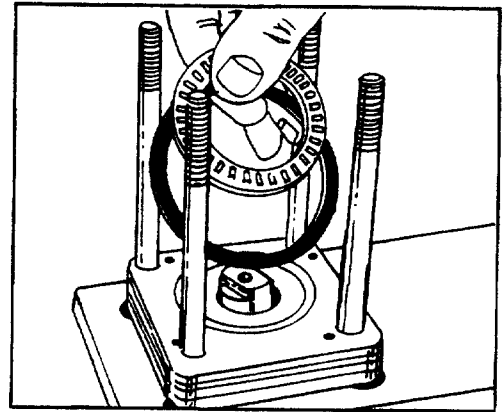

FIGURE 33.
40. Remove thrust bearing (28) and bearing spacer (27) from upper cover plate (32). See figure 33.
41. Inspect the thrust bearing (28) for brinelling (dents) or spalling (flaking); if either exists, or if one or more of the rolls are lost or broken, replace the bearing assembly. See figure 33. Replace seal spacer (31) or bearing spacer (27) if worn or broken.